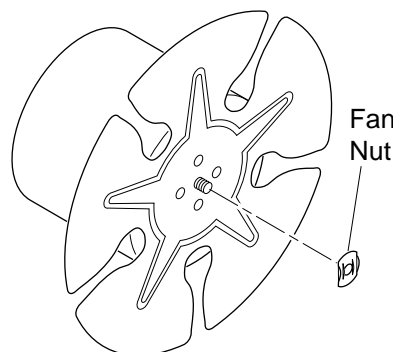

Figure 8 - Removing Fan Nut from Motor Shaft
6. Use pliers to remove the fan nut from front of motor shaft (see Figure 8).